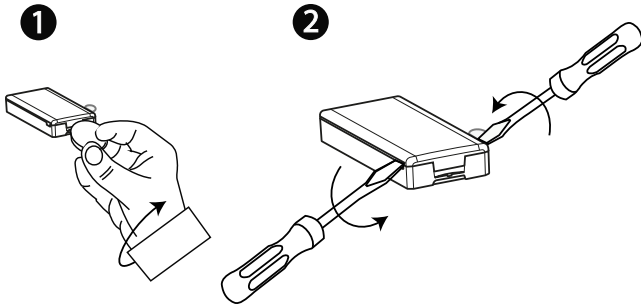

Figure 4: Device cover removal
1. Insert a coin in the slot and twist to remove the cover. See Figure 4. 1.
1. Remove the device cover. See Figure 4.